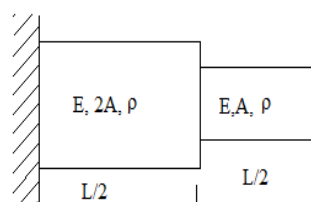

Figure 2
- Evaluate Eigen values & Eigen vector for stepped bar shown in figure 2 when it is subjected to axial vibration, with fixed free end condition as shown. Draw mode shapes